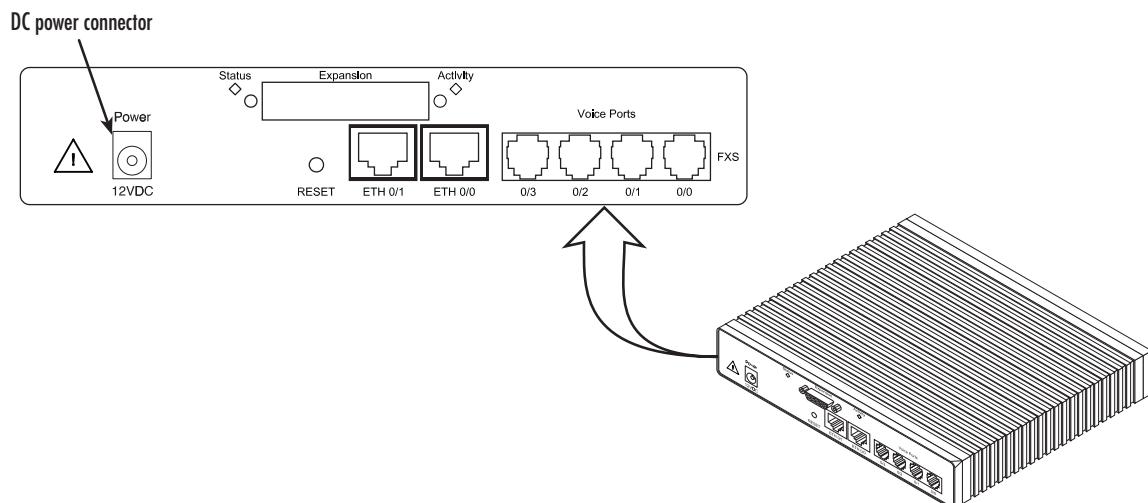

Figure 6. SmartNode 4830 Series power input connector
- *EUI* stands for external universal input power supply (see figure 6)
| Power | Rear panel | The gateway is available in a DC or AC power input version (see figure 6), labeled 100–240 VAC, 50/60 Hz, 200 mA |